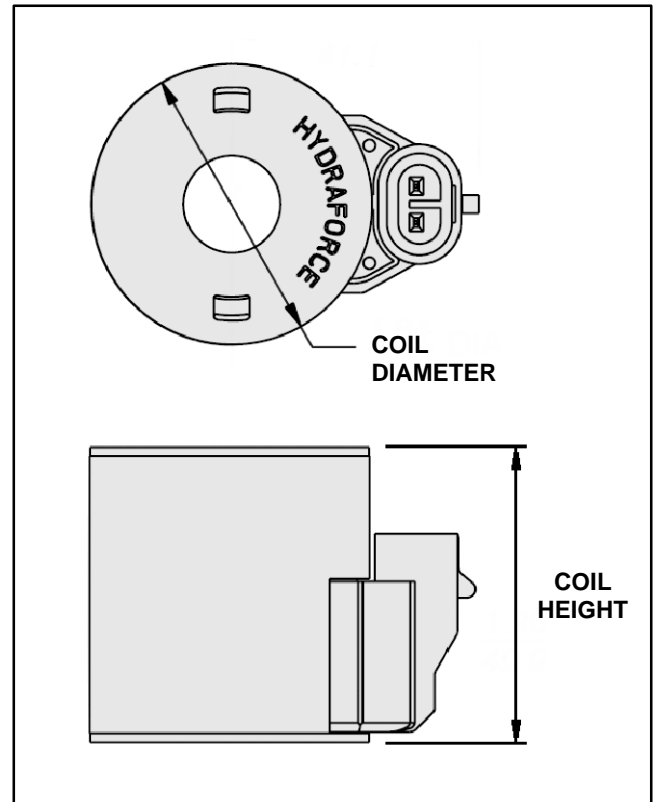

Figure 46
Two (2) different solenoid valve coils are used on the Reelmaster 7000. A coil can be identified by measuring its height and diameter (Fig. 46). Testing of the coils can be done with the coil remaining on the hydraulic valve.
2. Locate hydraulic valve solenoid coil to be tested. Identify coil by measuring the coil diameter and coil height (Fig. 46).